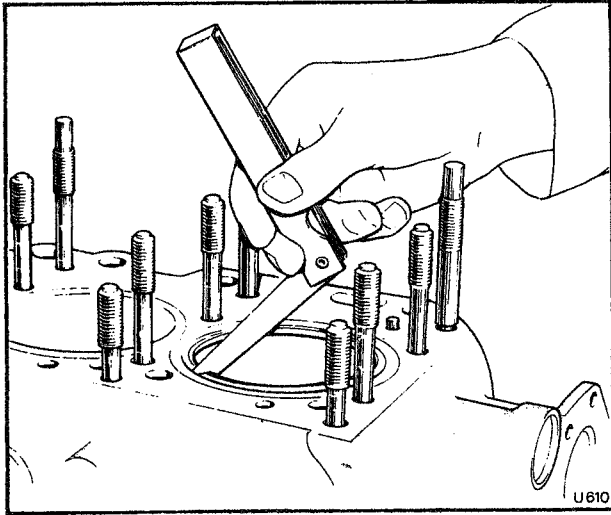

Fig. E20 Checking the piston ring gap
5. Check the compression rings in either a 10,41 cm. (4.10 in.) diameter ring gauge or an unworn part of the cylinder (see Fig. E20). If the rings are in good condition no light should show around the circumference of the rings.